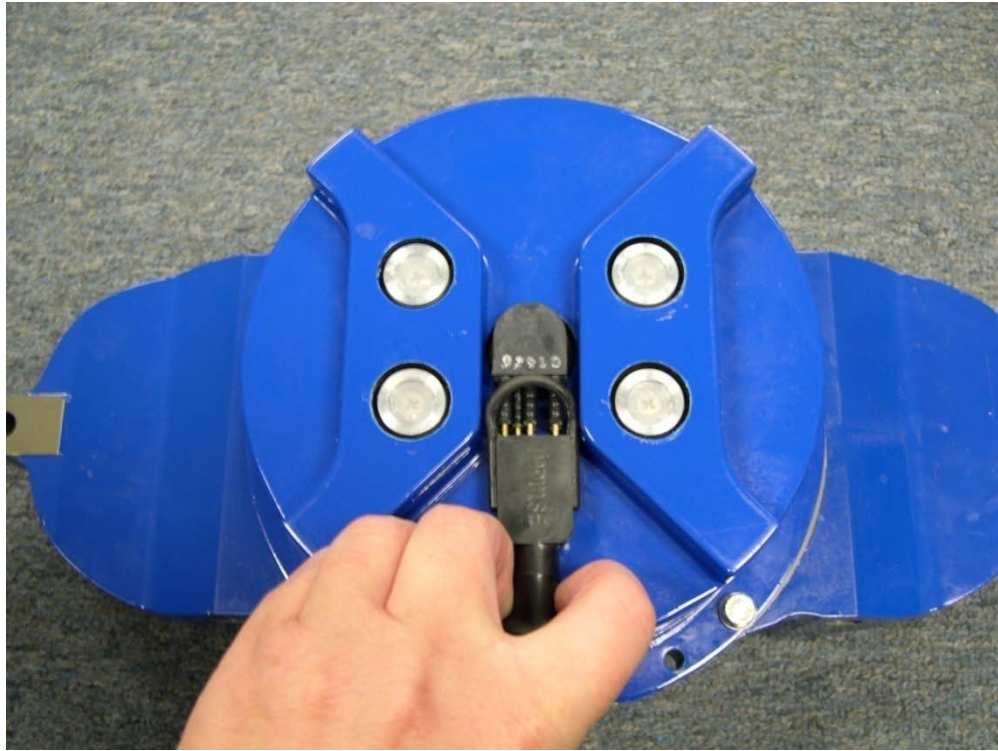

Figure 8. Removing the I/O Cable
- b. Grasp the cable close to the housing (see Figure 8). Your thumb should rest on top of the connector or against the edge of the housing. *Do not try to fit your hand under the cable as it passes over the housing.* This is what causes the upward force!